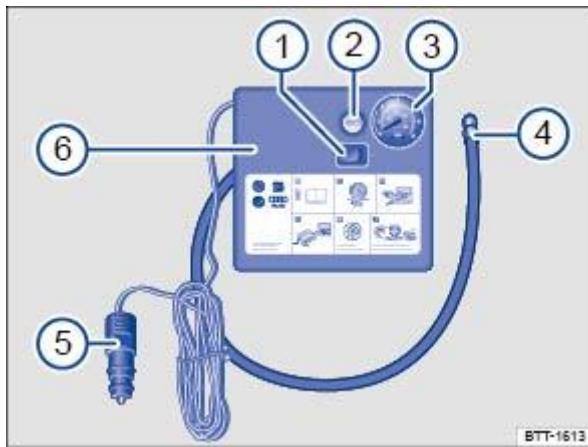

Fig. 209 Illustration: compressor from the breakdown set.
The compressor in the breakdown set consists of the following components ⇒ Fig. 209 :
② Screw the tyre filler hose ⇒ Fig. 209④ of the air compressor tightly onto the tyre valve.
② Check that the bleed screw ⇒ Fig. 209② is closed.
② Start the engine and let it run.
② Insert the 12-volt plug ⇒ Fig. 209⑤ into one of the vehicle's 12-volt sockets ⇒ Electrical sockets .
- ② Use the on/off switch ⇒ Fig. 209① to switch on the air compressor.
- ② Run the air compressor until the tyre pressure has reached 2.0 – 2.5 bar (29 – 36 psi/200 – 250 kPa) ⇒  . Maximum running time: 8 minutes⇒  .
- ② Switch off the air compressor.
- ② If a pressure of 2.0 – 2.5 bar (29 – 36 psi/200 – 250 kPa) cannot be achieved, unscrew the tyre filler hose from the tyre valve.
- ② Drive the vehicle approximately 10 metres forward or back so that the sealing compound is evenly distributed in the tyre.
- ② Screw the tyre filler hose of the air compressor firmly back onto the tyre valve and inflate the tyre again.
- ② If the required pressure still cannot be reached, the tyre is too badly damaged. The tyre cannot be sealed with the breakdown set. Do not drive on. Seek expert assistance ⇒  .
- ② Disconnect the air compressor and unscrew the tyre filler hose from the tyre valve.
- ② Drive the vehicle no faster than 80 km/h (50 mph) if a tyre pressure of 2.0 – 2.5 bar (29 – 36 psi/200 – 250 kPa) has been reached.
- ② Check the tyre pressure after driving for 10 minutes⇒ Check after driving for 10 minutes .
Reconnect the tyre filler hose ⇒ Fig. 209④ and read off the tyre pressure on the tyre pressure display ③.